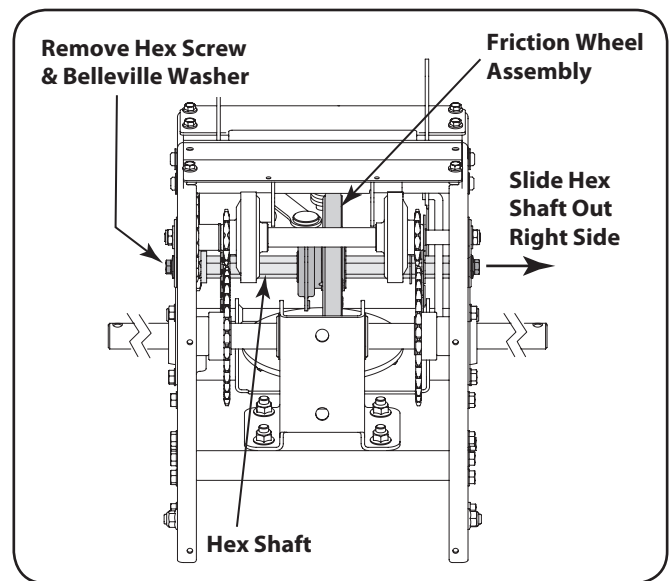

Figure 7-10
- Using a 3/4" wrench, hold the hex shaft and remove the hex screw and belleville washer and bearing from left side of the frame. Refer to Figure 7-10.